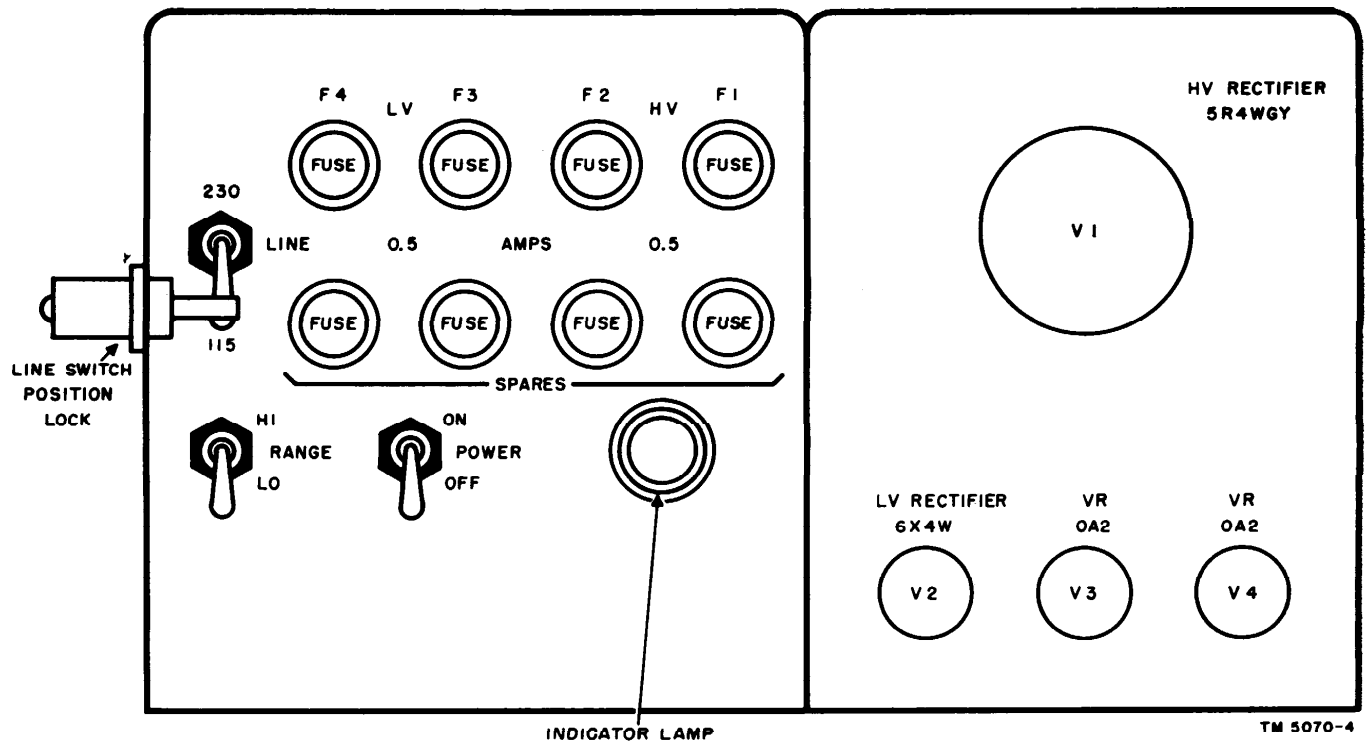
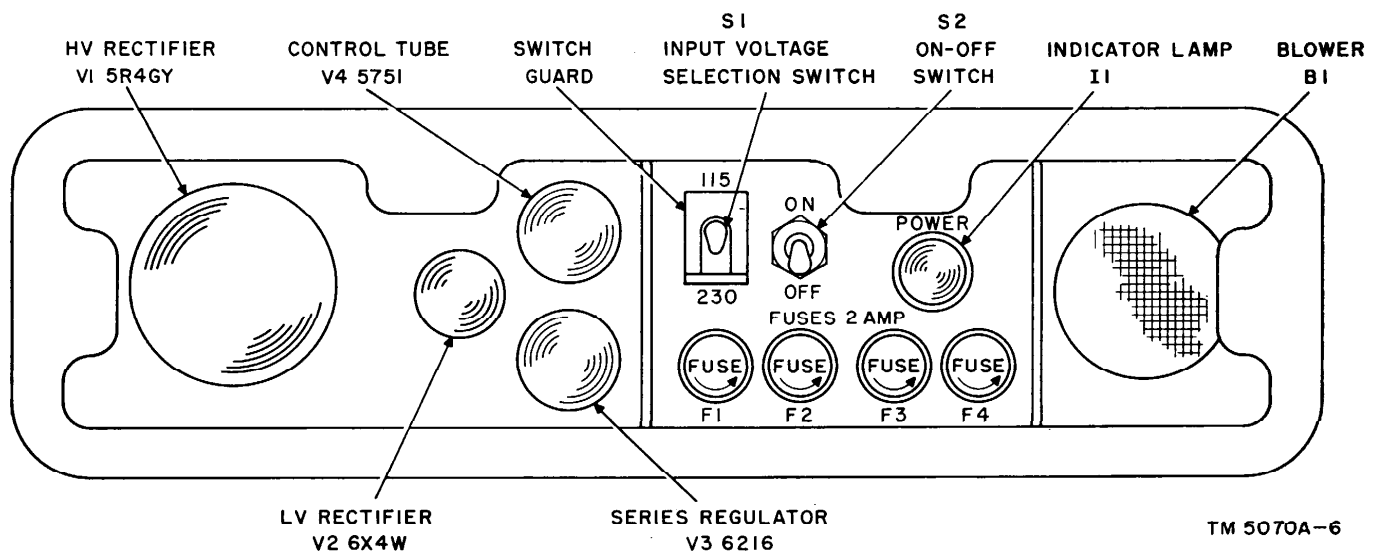

Figure 6. Power Supply PP-327/GRC-9Y, controls and tube location.
Figure 7. Power Supply PP-327A/GRC-9Y, controls and tube location.
a. Tubes. The power supplies are shipped with all operating tubes installed in their sockets. Check to see that each tube is firmly seated. Tube locations for Power Supply PP-327/GRC-9Y are shown in figure 6. Figure 7 shows tube location for Power
b. Fuses. The location of all operating fuses is shown in figures 6 and 7. Check to see that all fuses are in operating condition and of the proper value. Power Supply PP-327/GRC-9Y uses .5-ampere fuses and Power Supply PP-327A/GRC-9Y uses 2-ampere fuses.
a. Power Supply PP-327/GRC-9Y (fig. 6).
b. Power Supply PP-327A/GRC-9Y (fig. 7).